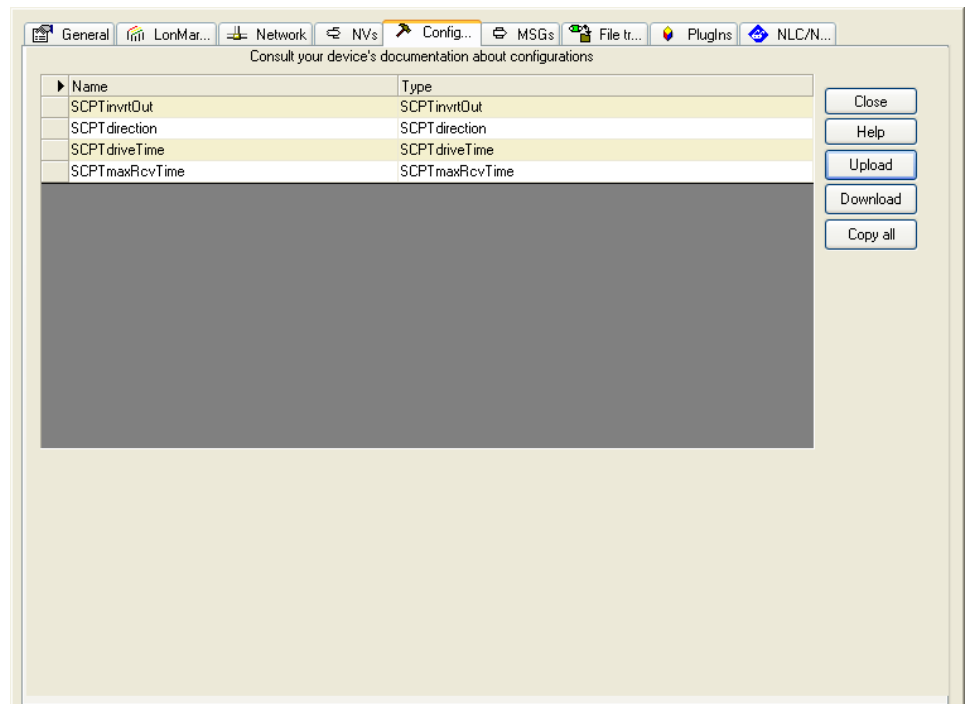

Figure 138: Configuration Tab for Configuration Properties in NL220.
2. Press the **Upload** button on the Configuration tab of the device properties (see Figure 138).